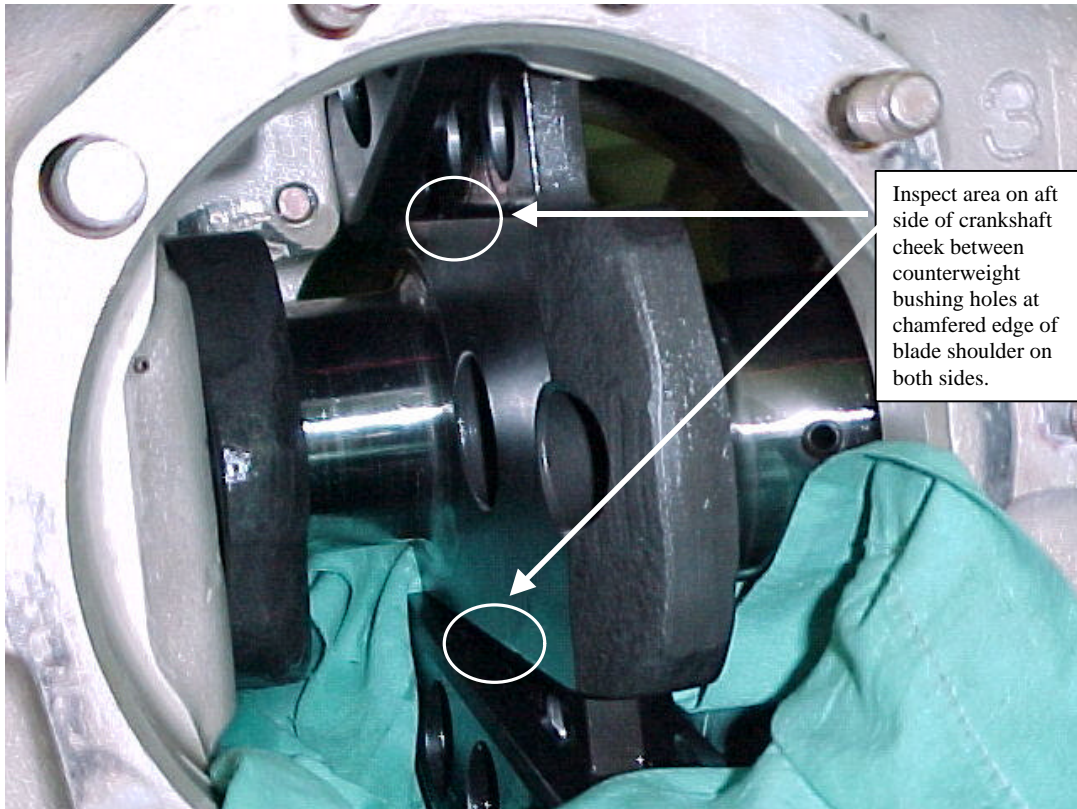

FIGURE 4
1. Rotate the crankshaft so that the crankshaft cheek to be inspected is positioned as shown in Figure 4. The crankshaft connecting rod journal will be at the 8 o'clock position and the counterweight hanger blades will be at the 11 o'clock and 5 o'clock positions.
3. Position counterweights as shown in Figure 4.
5. Using a flashlight and mirror or a borescope visually inspect the aft side of the number two crankshaft cheek for indications of a crack or mechanical damage. The inspection area is between the counterweight blade bushing holes at the chamfered edge of blade shoulder on both sides of the crankshaft cheek aft face. See Figure 4.